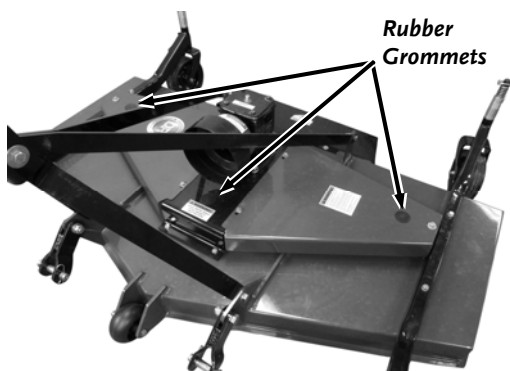

Figure 35
3. Remove the three Rubber Grommets from the Belt Covers and Gearbox Seat (**Figure 35**).